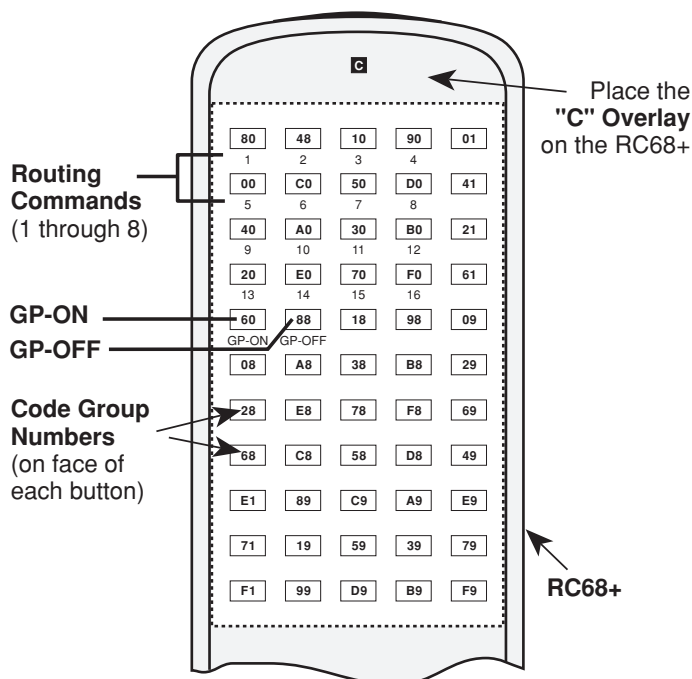

Fig. 2 RC68 Programmer
The RC68+ Programmer (available separately) contains all the commands necessary to operate the RT8 (see Fig. 2).
6. The RC68+ commands **1, 2, 3, & 4** (refer to **Fig. 2**) will establish an IR route to each TV individually. The **GP-ON** (Group On) command will route to all 4 TV's simultaneously.